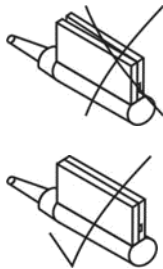

Fig.06
6. Make sure neither the haptic nor the optics is caught in between the shutters (if it happens some gap will be observed between the shutters after closing the cartridge) as shown in Fig.06.If the gap is observed, repeat step no. 3,4& 5